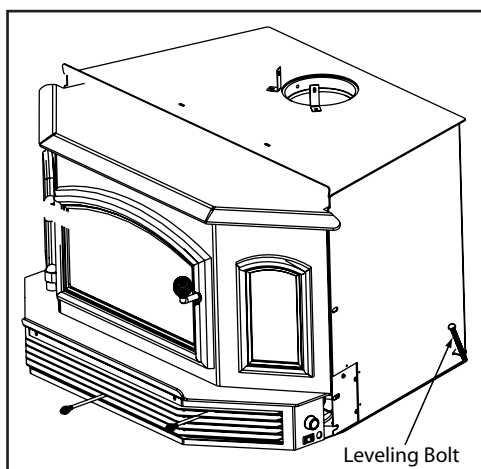

Figure 21.1
2. Remove the leveling bolts from the component pack and start the bolts in the weld nuts. **Figure 21.1.**
1. Remove the bolts from the component pack and insert into weld nuts welded to each side of the insert bottom **Figure 21.1.**